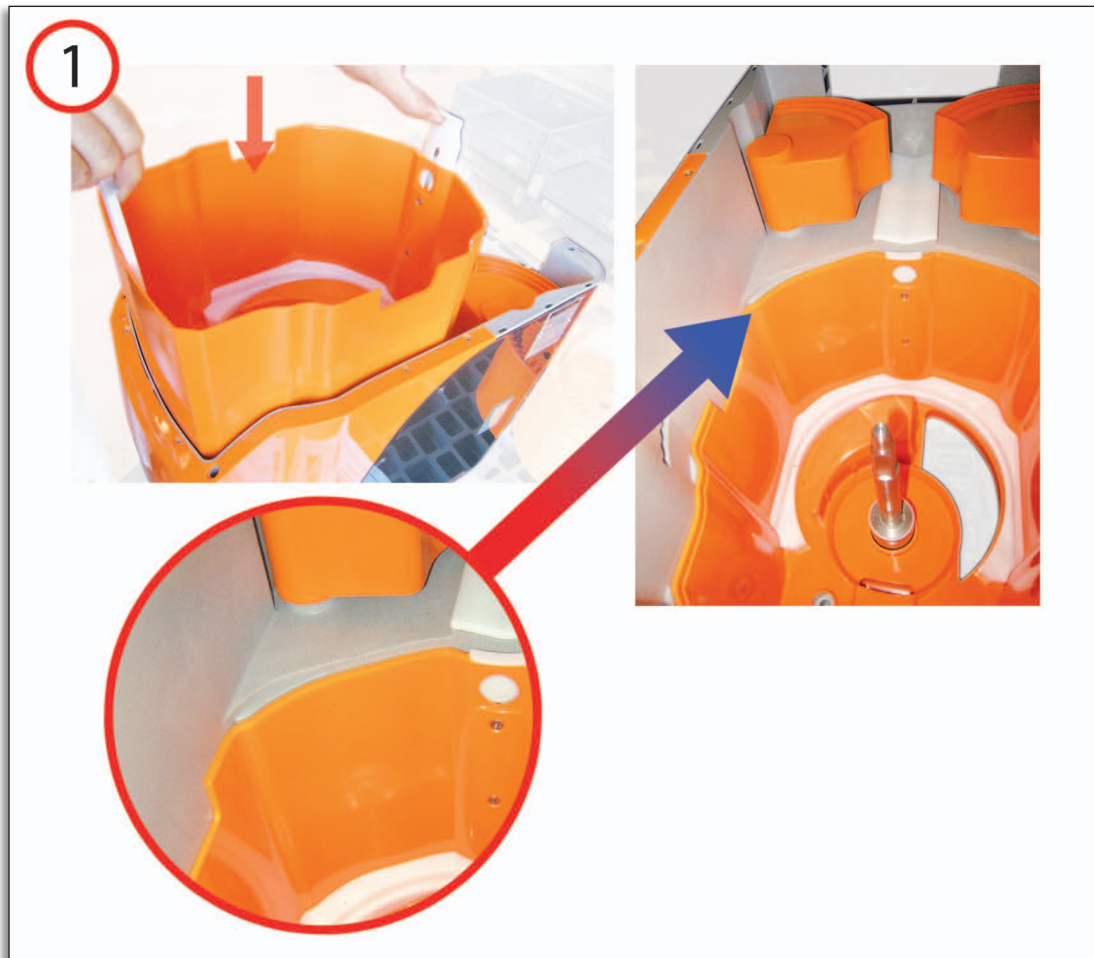

Figure 3.1.14 - Squeezing pot insertion
- 1 • **Pot inserting** - Insert the pot by grabbing the handles. The correct position is determined by the alignment of the edge of the internal structure (figure 3.1.14).